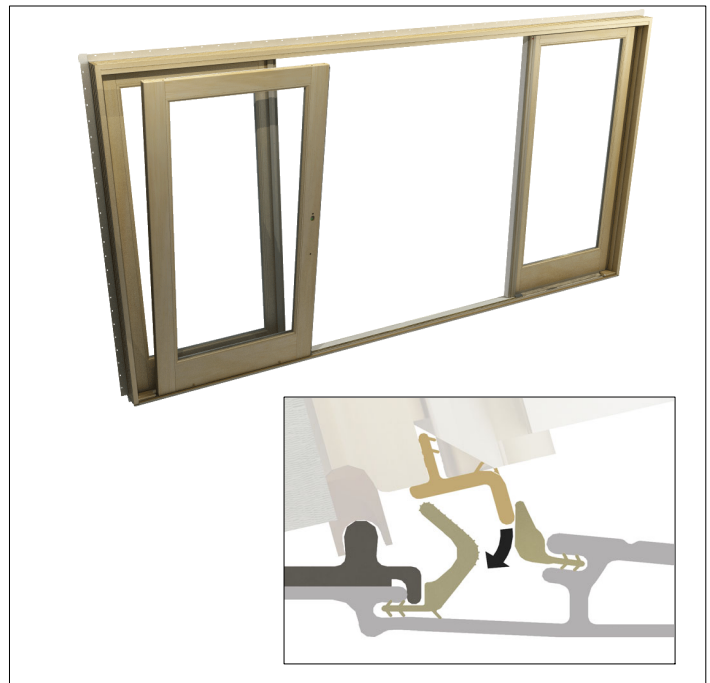

Figure 6: Units with low profile sill.
5. **For all doors with low profile sill:** Set the inactive panel (if applicable) down in front of the stationary panel, overlapping the stationary panel as much as possible. Place the back of the panel down on the rollers and roller track. Maneuver the front end of the panel sweep between the two weather strip pieces in the sill while setting the front of the panel down on the roller track. Close panel and temporarily engage the flush bolt. Follow this step for the active panel as well. There should be no wrinkles or folds in the sill weather strip. See figure 6.